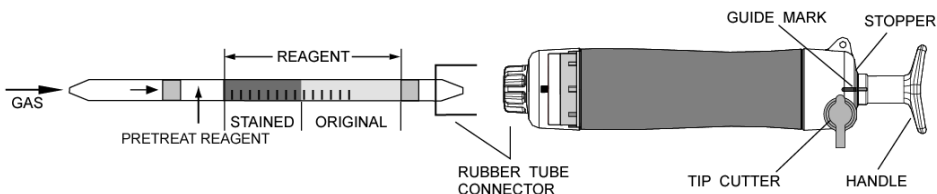

Fig.1
- ② Insert the detector tube into aspirating pump securely as shown in Fig.1. (Arrow mark shall point to the pump.)
- ③ Align the guide marks on the shaft and stopper of the aspirating pump.
- ④ Pull the pump handle at full stroke until it locks and wait for 1.5 minutes or until the completion of sampling is confirmed with the flow indicator of the pump (See descriptions about the flow indicator in the instructions of the pump).
- ⑤ Push the handle without removing the detector tube from the inlet, and air in the pump will be discharged perfectly. Then repeat the step ④ fourth again.
- ⑥ In this case, read the scale at the maximum point of the stained layer and then divide the reading value by 0.2.
- ⑦ If the discolouration is over the full scale (16ppm), 1/2 (50mL) pump strokes sampling is available. Insert the new detector tube into the pump inlet and pull the pump handle at 1/2 pump strokes (to 50mL line), and it will be automatically locked. Leave it for 30 seconds as it is.
- ⑧ Remove the detector tube from the pump and read the concentration.
- ⑨ Then multiply the reading value by 2.3.